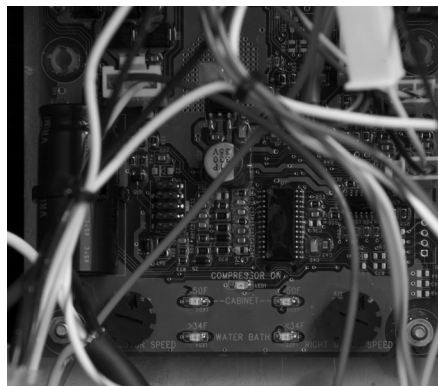

FIG 7
4. Press and hold either dispense switch while plugging the dispenser into the power source. Continue holding dispense switch until all 4 temperature LED's, Fig. 7 on the circuit board start flashing slowly (this takes about 5 seconds). Release dispense switch.